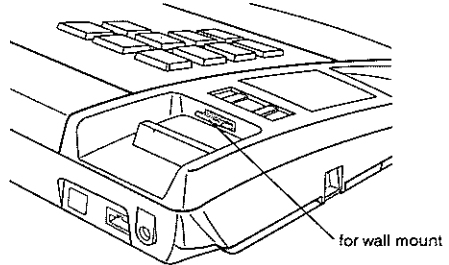

FIGURE 2 : Wall Mounting
2. To enable the HANDSET to be supported in the cradle, follow the procedure shown in Figure 2 to reverse the HANDSET RETAINER.